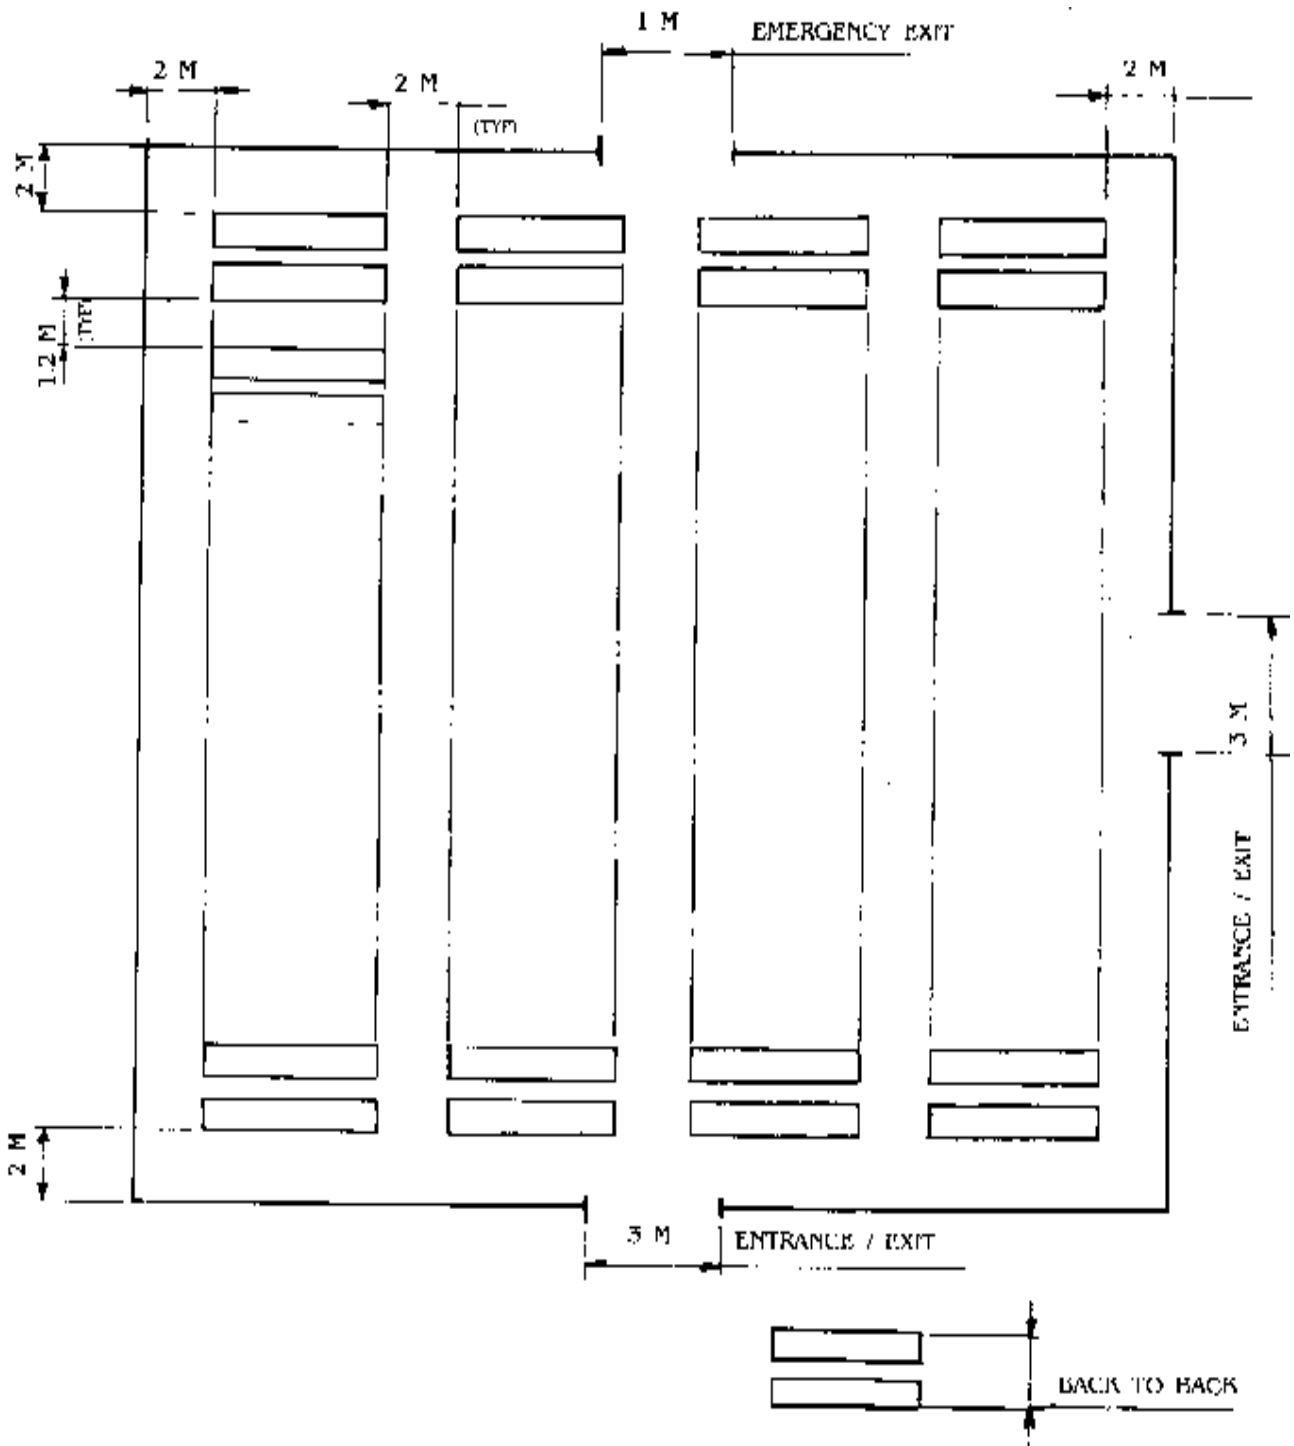

FIG. 22 LAY-OUT OF STORE
- 1) The bulk carrying cases have to be arranged as shown in Fig. 22 (LAY-OUT OF STORE). They can be kept back to back as shown in Fig. 22.